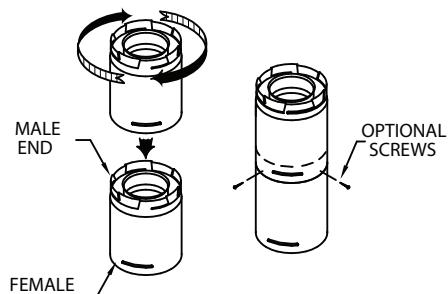

Figure 5
(1) Twist-lock procedure: Line up locking lugs on male and female ends of pipe sections. Insert the male end of pipe into the female end until the locking lugs are covered. Twist the female end clockwise an eighth of a turn to lock sections together (*Fig. 5*). Screws are not required to secure the joint, but are acceptable provided they do not penetrate the inner wall of the vent pipe.
(2) Horizontal runs of vent pipe must be supported to prevent any downward sags. Horizontal pipe sections should be supported at least every 4-feet. Wall Straps can be used for this purpose. Alternatively, plumbers tape or other suitable noncombustible material can be used to support the vent pipe.
(3) DirectVent Pro venting requires no sealant, unless specifically required by appliance manufacturer.